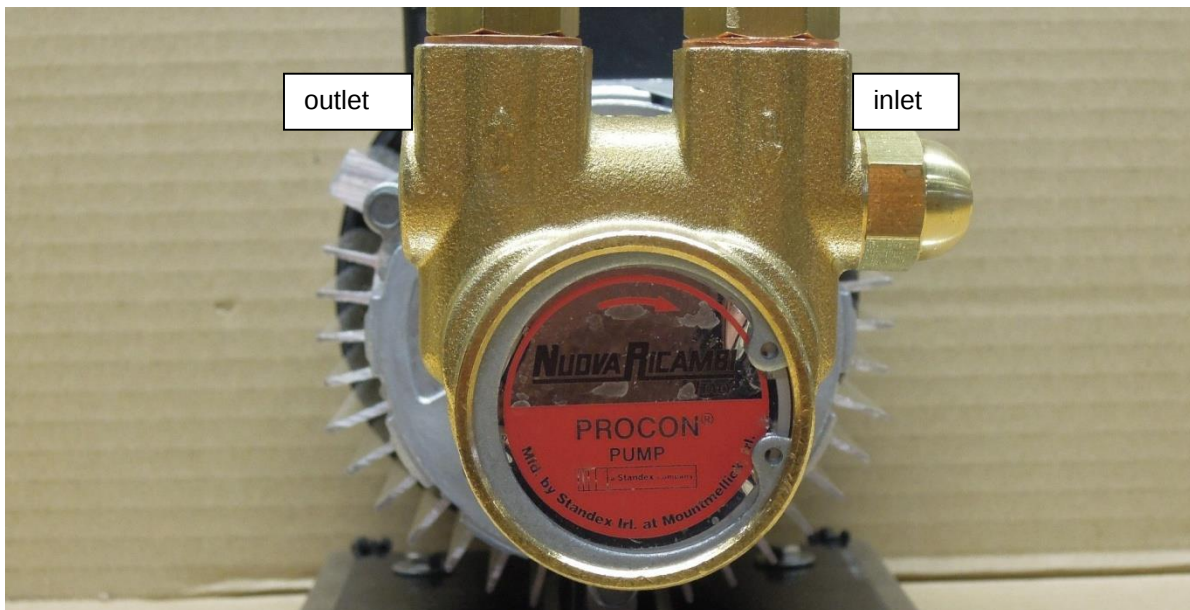

Figure 8. Pump with inlet and outlet shown.
**Note!** The outlet of the pump is marked with an arrow pointing up, away from the pump-housing (see Figure 8).
**Note!** The inlet of the pump is marked with an arrow pointing down, towards the pump-housing (see Figure 8).